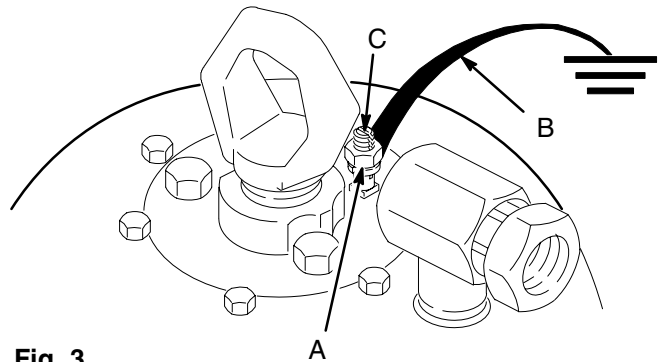

Fig. 3
1. *Pump:* Loosen the grounding lug locknut (A) and washer. Insert one end of a 12 ga (1.5 m2) minimum ground wire (B) into the slot in the lug (C). Tighten the locknut securely. See Fig. 3. Connect the other end of the ground wire to a true earth ground. Order a Grounding Wire and Clamp, P/N 237569, (25 feet (7.6 m) long, 12 ga.).